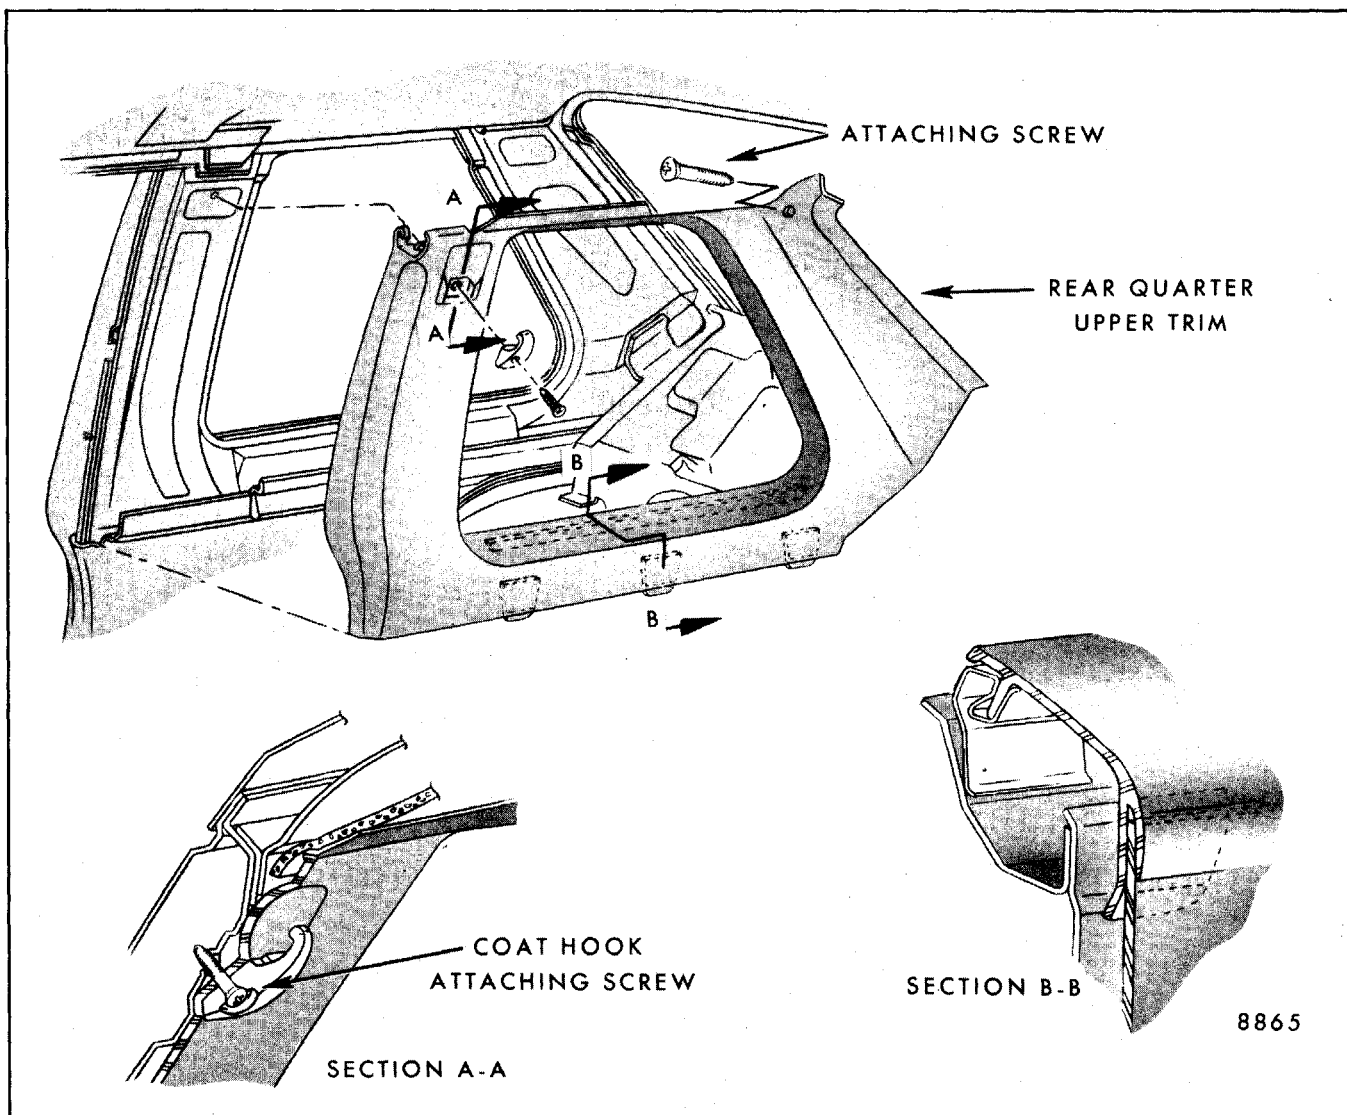

Fig. 6-12-Quarter Upper Trim Attachment - "H-27 and A-57" Styles
4. To remove, loosen adjacent moldings where required and remove visible attaching screws (Figs. 6-12, 6-13, 6-14, 6-17 and 6-19).